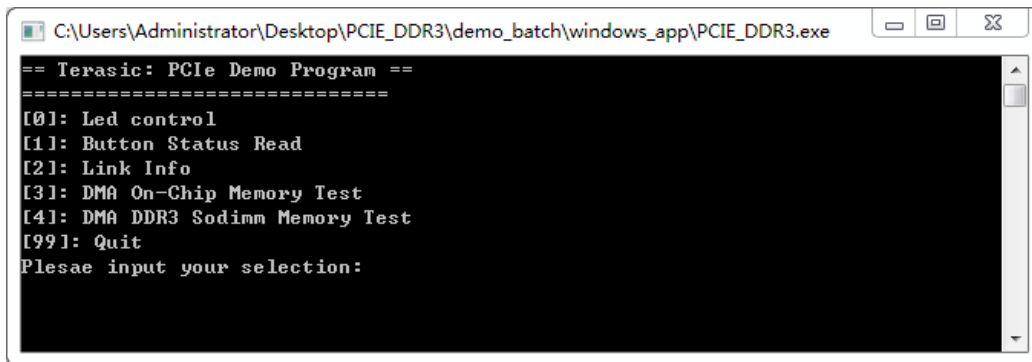

Figure 4-16 Screenshot of Program Menu
7. Goto windows\_app folder, execute PCIE\_DDR3.exe. A menu will appear as shown in Figure 4-16.